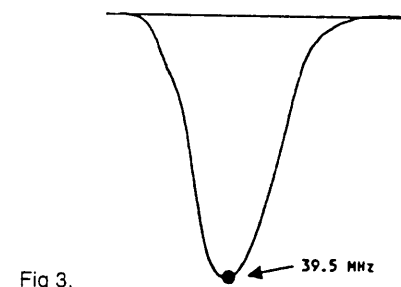

Fig 3.
Alignment Step (see fig 3)
- Adjust T104 (Tank Coil) to obtain maximum amplitude of response at 39.5 MHz as in fig 3.